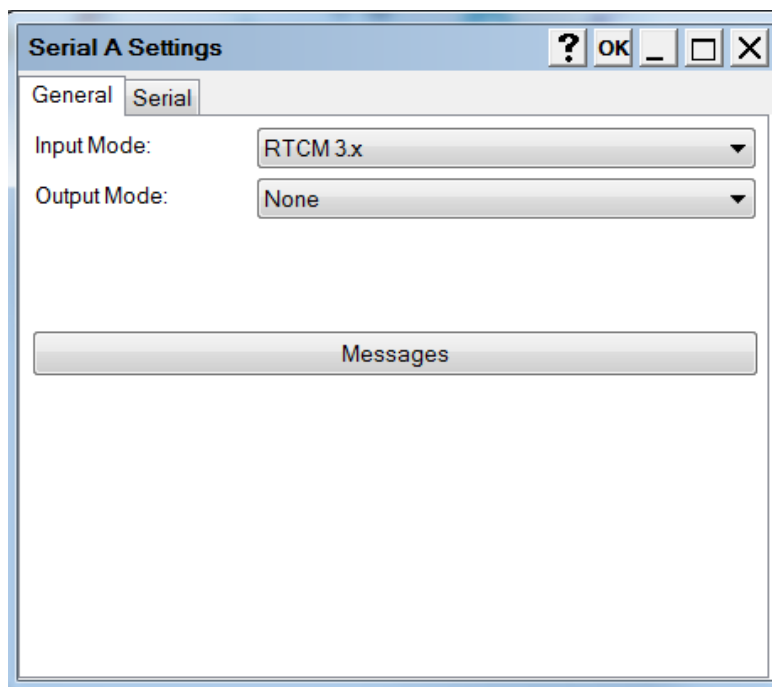

Figure 43: Serial Port Settings
3. In the **Settings** screen, select the following (Figure 43):